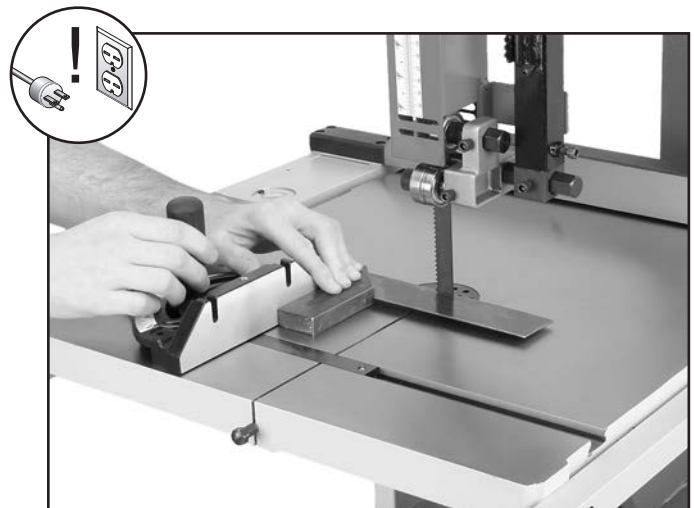

Figure 61. Squaring miter gauge to blade.
2. Use a square with one edge against the face of the miter gauge and the other against the blade side, as shown in **Figure 61**.